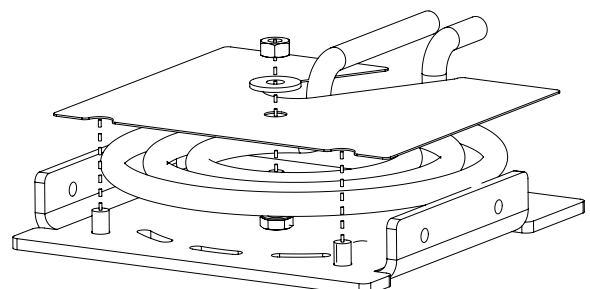

Fig. 22 Disassembling the heating element unit.
5. Unscrew the nut which holds together the heating element and the thermal screen plate. Remove the thermal screen, dismount the heating element (Fig. 22).
⚠ When positioning the new heating element onto the heating element plate, make sure that the heating element touches the two metal fingers of the plate (Fig. 22). Then slots of the plate find themselves in between winding of the heating element and air can move through unobstructed.